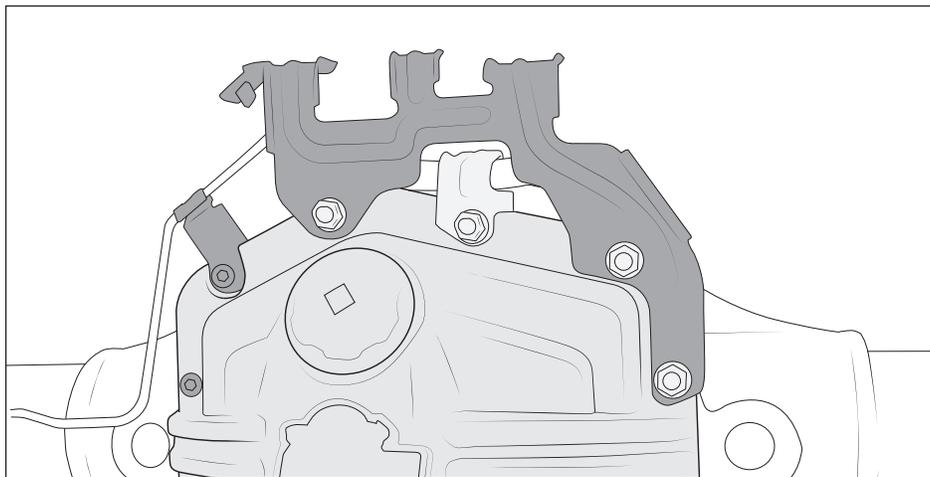

Figure 3
12. Reinstall factory brackets onto double ended studs and secure with AEV provided nuts QTY 4 (fig. 3).